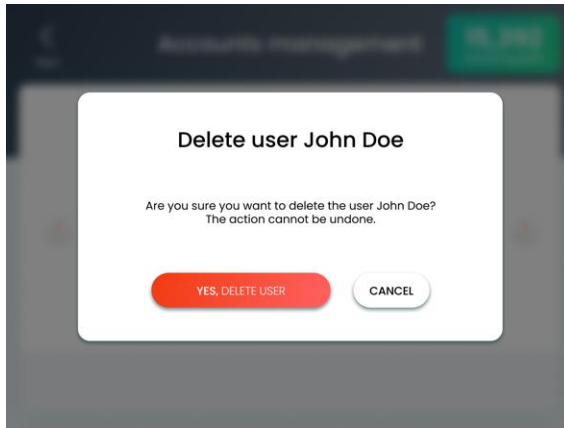

Figure 6-13. Delete User Screen
3. Press the **Delete** button; the Delete User screen appears, as shown in Figure 6-13.